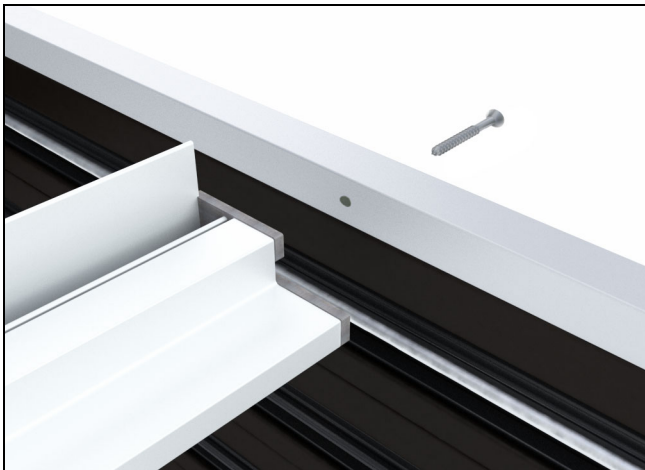

Figure 79
9. Fasten sill liner to pocketing interlock(s) using #8 x 1 1/2" flat head screw. See figure 79.